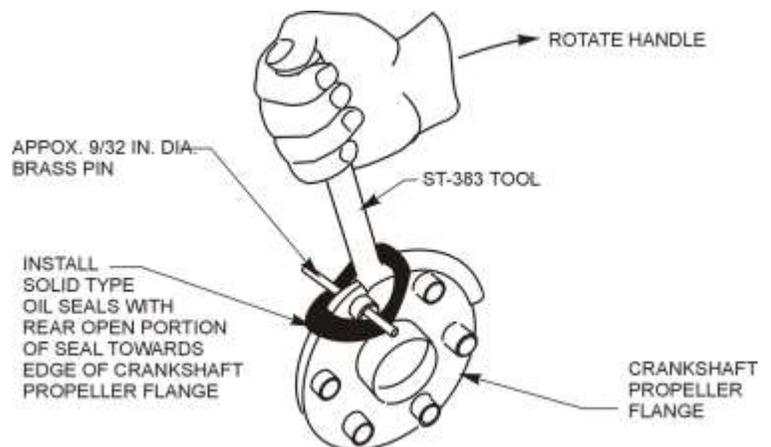

Figure 49
- (f) Put a brass pin approximately 9/32 in. diameter by 3 in. (7 cm) long through the crankshaft propeller flange bushing to hold both sides of the seal in place as shown in Figure 49.
- (h) Install the oil seal over the edge of the crankshaft propeller flange with the groove (open portion) of the seal towards the crankshaft propeller flange. Refer to Figure 49.
- (i) Install the Crankshaft Oil Seal Installation Tool ST-383 under the seal and over the edge of the crankshaft propeller flange as shown in Figure 49. Use even pressure with your hand, carefully turn the tool to force the oil seal over the crankshaft propeller flange and use care not to damage the seal.